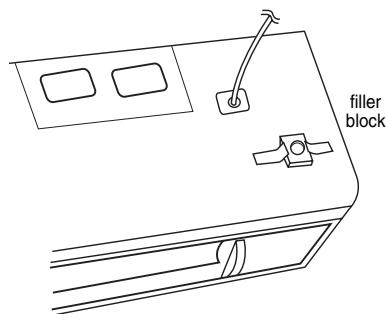

Figure 27
- Align filler blocks over the two openings in the top of the microwave oven cabinet and attach to cabinet with masking tape. See Figure 27.